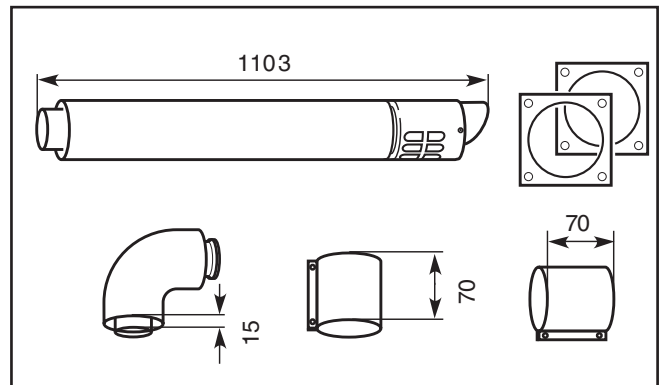

Fig. 3.4 Art. No. 303209
- 80/125 horizontal air/flue duct, see fig 3.4.